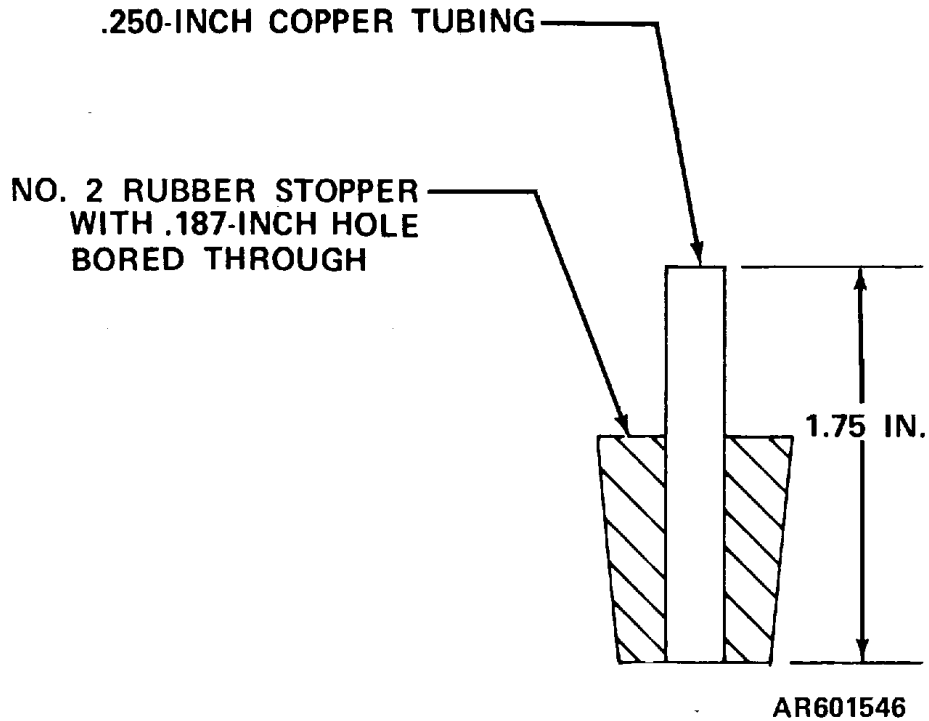

Figure 1. Fabrication instructions for connector (B1).
5. Accessories Required. Some of the accessories listed in table 3 are issued as indicated in paragraph 4 above, except for the one which is fabricated as shown in figure 1. All are to be used in this calibration procedure. When necessary, the items other than the one fabricated may be substituted by equivalent items.